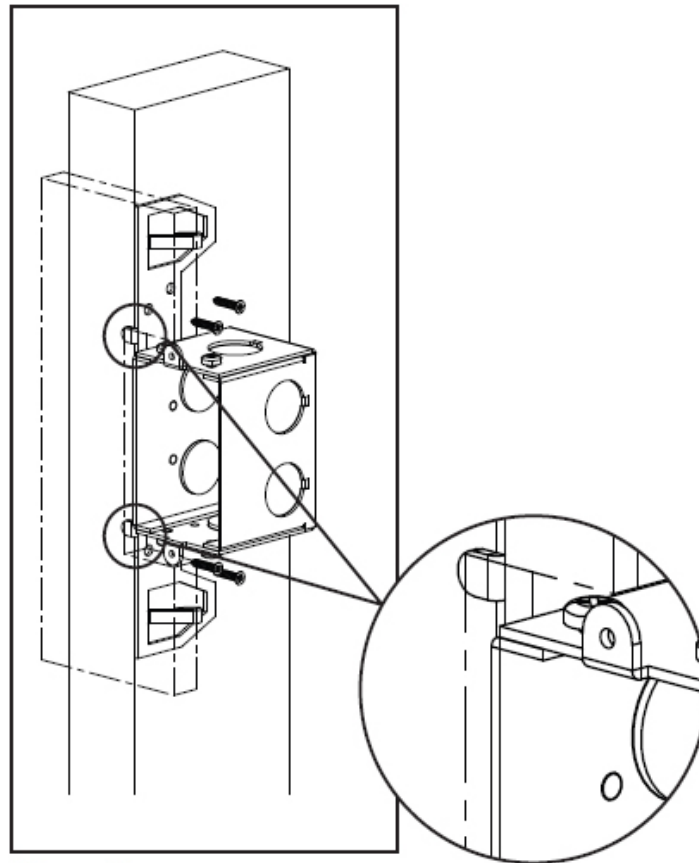

Figure 3
2. Align hanger strap, utilizing the hanger's tabs, to the front of the wall stud. Position the center of the box at the recommended height of 14" above finished floor and then drive the hanger spikes into the stud as shown in Figure 3. Install additional screws thru the holes in the hanger to secure the back box.